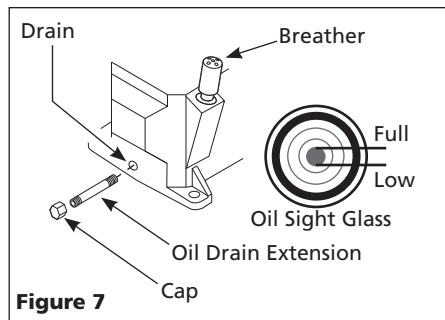

Figure 7
Some models include an oil drain extension and cap (found with the owner's manual). Install the oil drain extension and cap before adding oil to the pump. To avoid oil leaks, it is highly recommended to apply PTFE thread sealant tape or plumber's putty to the threads on each end of the oil drain extension. Screw the cap onto one end of the extension. Remove the oil drain plug from the base of the pump and install the oil drain extension (See Figure 7).
**NOTE:** If your model is equipped with an oil sight glass, add oil to the fill line (See Figure 7).